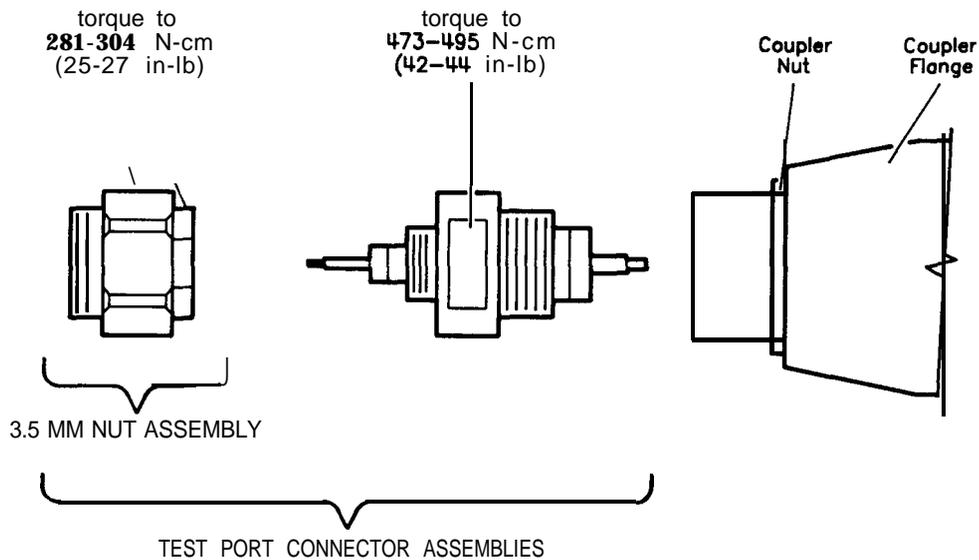

Figure 5-8. Exploded View of the 3.5 mm Port Connector
Refer to Figure 5-8 and the following text to replace or repair these 3.5 mm test port connectors.
2. Replace with a new test port connector assembly using a $5/8$ inch torque wrench to the limits called out in Figure 5-8.
3. Torque with a $9/16$ inch torque wrench to the limits set in Figure 5-8.
(13) POWER TRANSFORMER